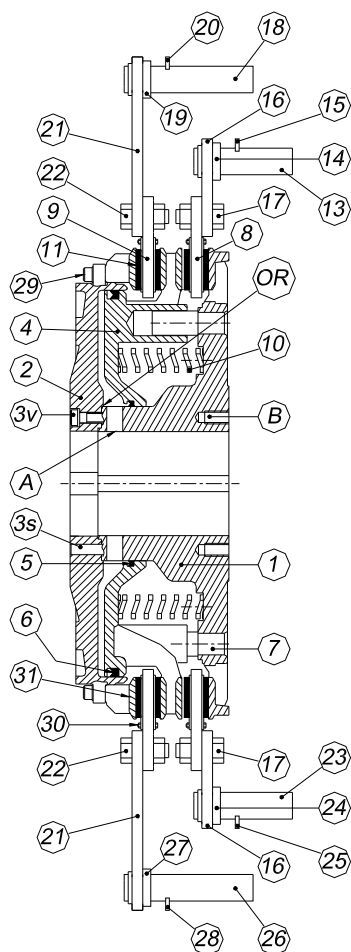

Fig.1a - C/B unit with pins
Braking – (figures 1a, 1b, 1c, 1d and 1e): the springs (10) push the piston (4) thus closing the brake disc (9) against the brake track (31). The dynamic friction produced on the brake disc lining brings about the torque braking the driven shaft.
Engagement – (figure 1a, 1b, 1c, 1d and 1e): the compressed air inserted through hole (A) overcomes the strength of springs and moves the piston (4) thus freeing the brake disc (9) and pushing then the clutch disc (8) against the hub disc (1) or (34).
- 2) by suspending them on two points by means of pins (the ring is still free to slide – fig.1a)